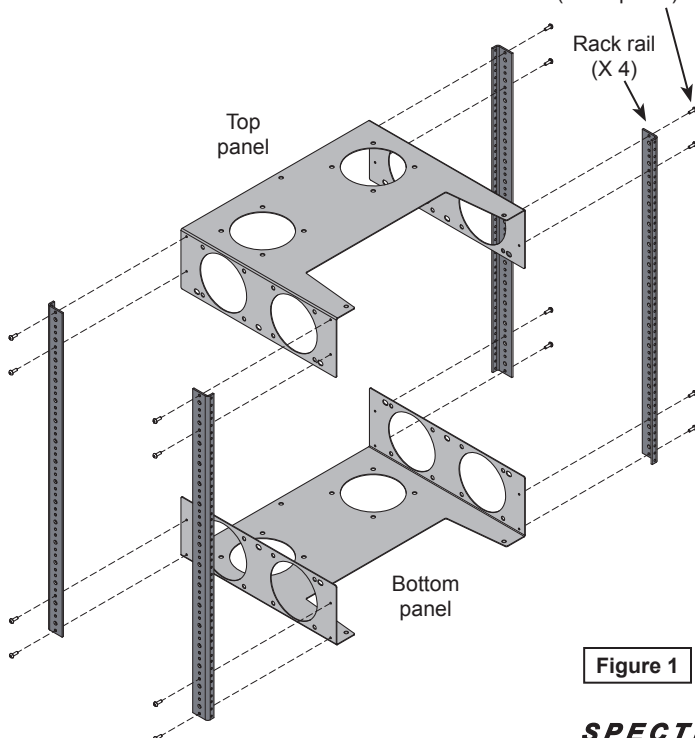

Figure 1
1. Assemble the cube top, bottom, and four rack rails using (16) 8-32 x 1/2" PH thread-cutting screws. Note the orientation of the rails. **Figure 1.**